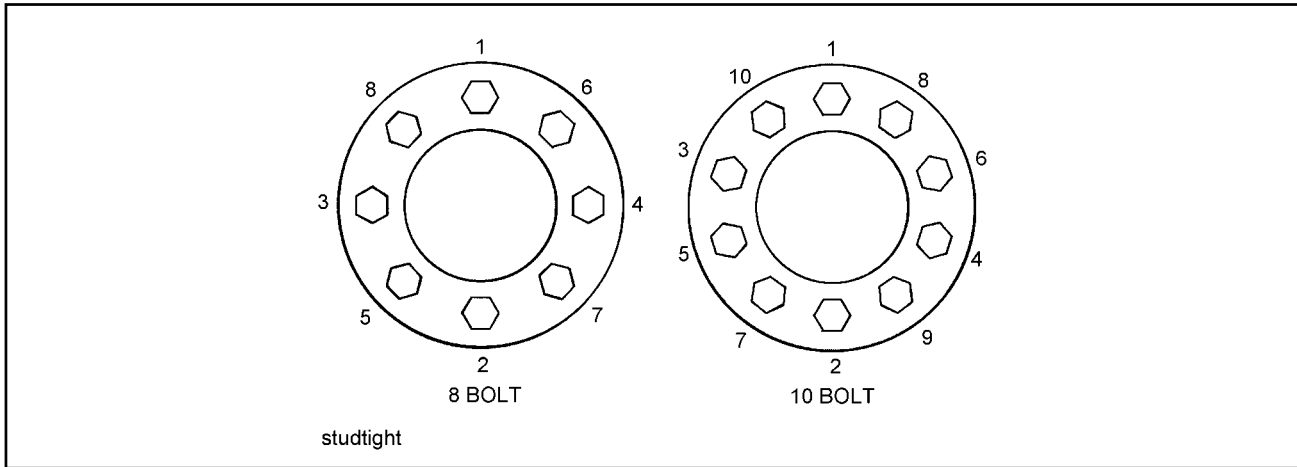

Figure 4-18 Stud Tightening Sequence
- c. Install the inner capnuts on the studs and tighten to fifty foot-pounds using the sequence illustrated in Figure 4-18. Make certain that the left-handed threads are installed on the driver side of the vehicle and the right-handed threads are installed on the curbside of the vehicle.
- d. Tighten the inner capnuts to full torque of 450 to 500 foot-pounds using the sequence shown in Figure 4-18.
- f. Install the outer capnuts and tighten to 50 foot-pounds using the sequence in **Figure 4-18**. Then tighten to full torque of 450 to 500 foot-pounds using the same sequence.